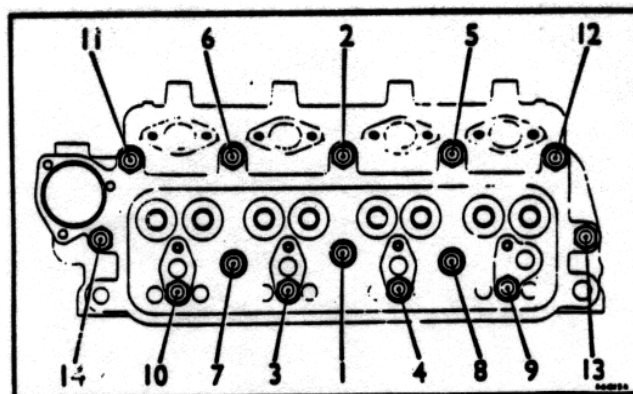

Fig. 3
- j. Tighten the cylinder head nuts in the order shown in Fig. 3.